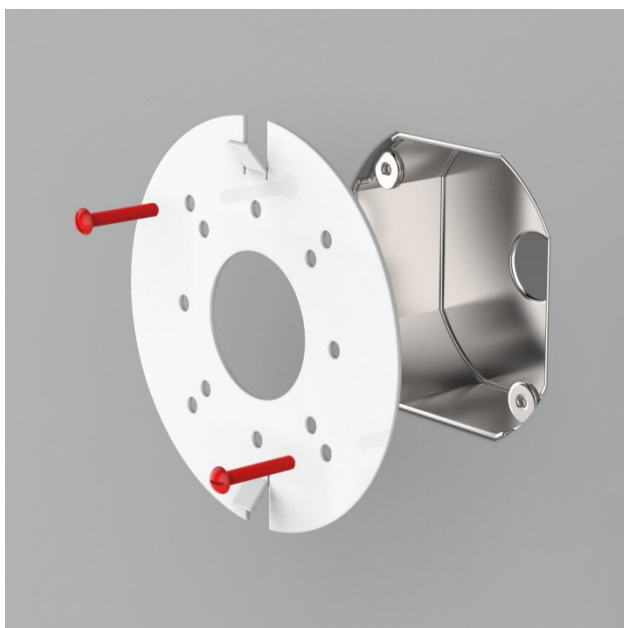

Figure 1
- Install mounting plate to wall electrical box with the screws provided. (Figure 1)